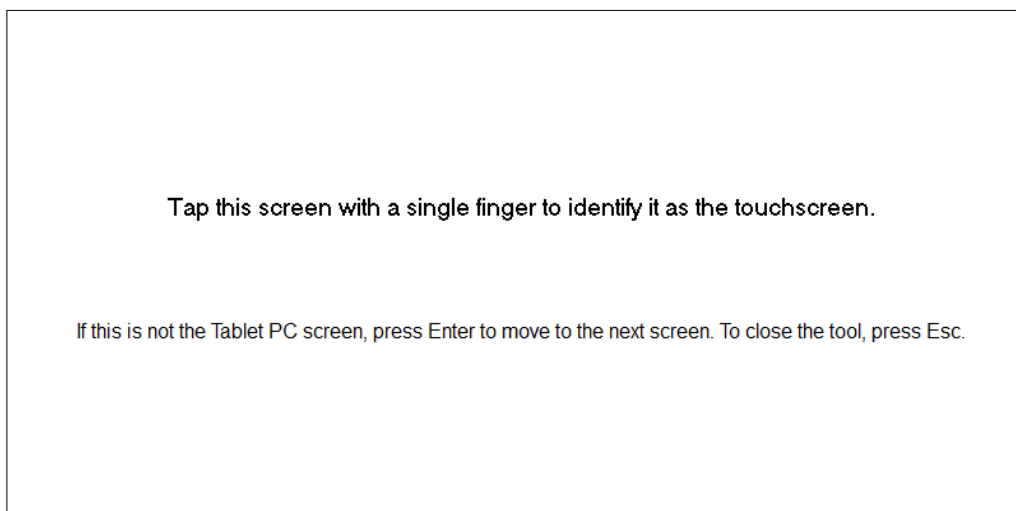

Figure 32: Choosing the appropriate screen to be paired with the touchscreen interface.
- 5 Assign a screen to a touchscreen interface (see Fig. 32).